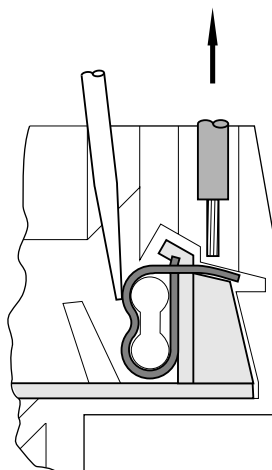

Figure 8
3. Push the screwdriver blade down until the contact spring (3) rests on the stop (See Fig. 8).